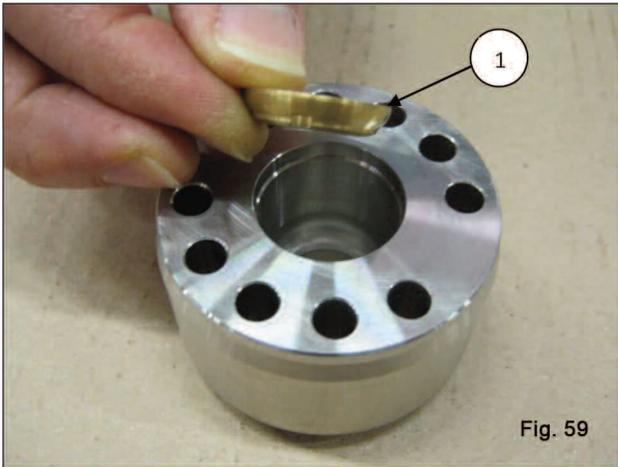
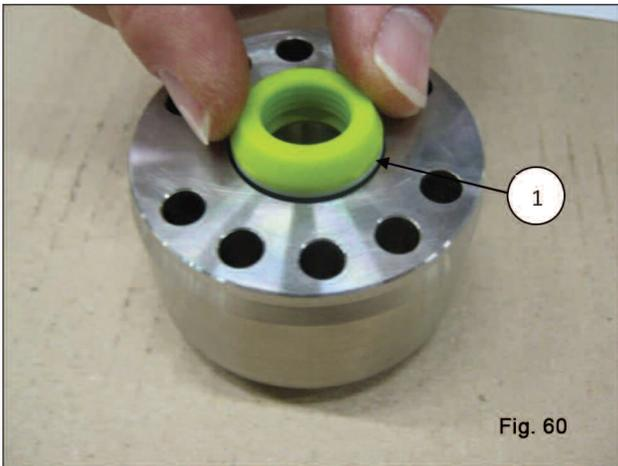
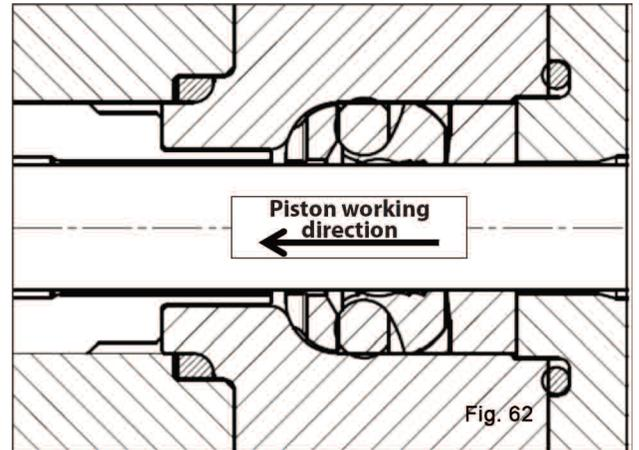

Fig. 59
Fig. 60
Fig. 62
- Introduce in the HP seals support, the head ring (1, fig 59) and then the HP packing; considering the slight interference between the seal and the HP seals support, to avoid damage we advise using a plastic pad (1, fig. 60 and 61).
**!** The HP seal must be inserted into the liner with the energizing O-ring in the working direction of the plunger as shown in fig. 60 and fig. 62.